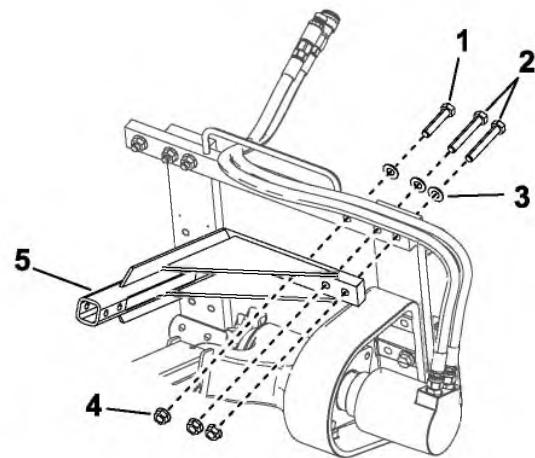

Figure 4
1. Remove the bolts, washers, and flange nuts from the upper left corner of the trencher frame (Figure 4).
2. Using the fasteners removed previously, install the trencher safety bar as illustrated in (Figure 4).